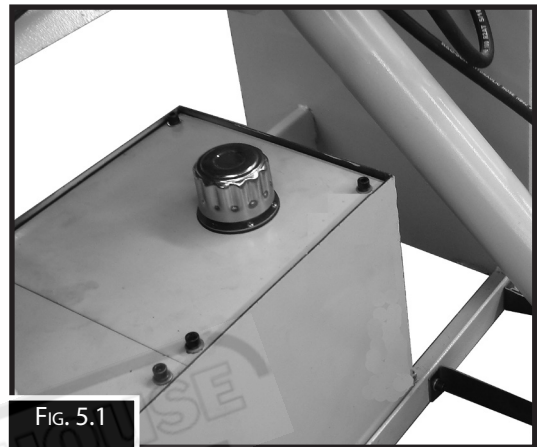

FIG. 5.1
1. Remove the 4 socket head cap screws holding the tank cover and remove the oil tank cover. (Fig.5.1)